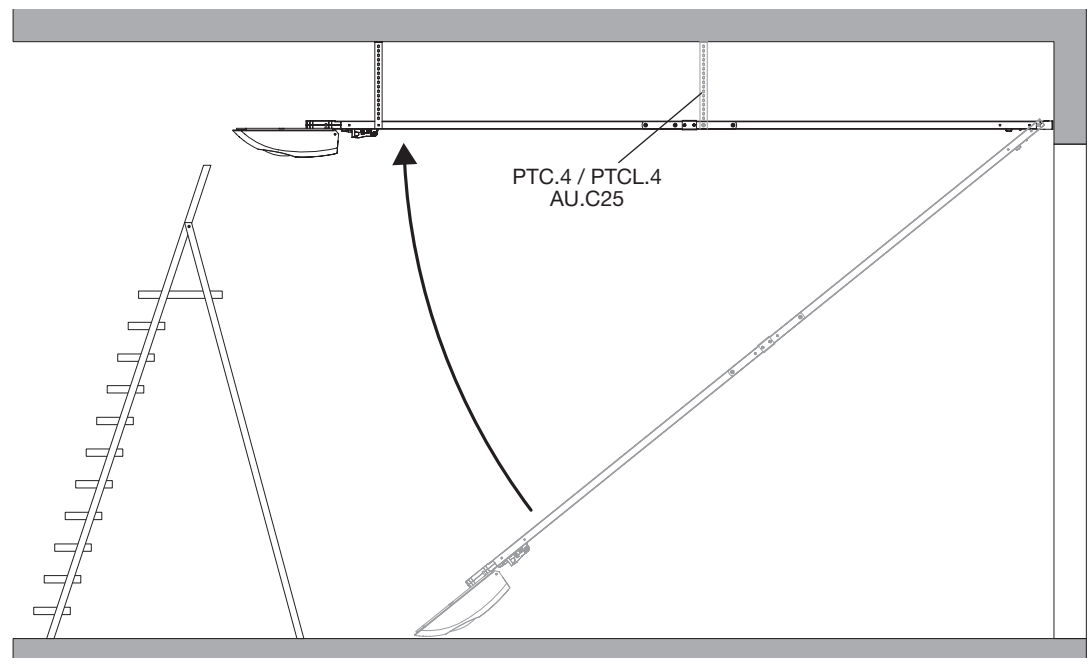

Fig. 12
- By using a ladder, hoist the gear motor (Fig.12), mark the fitting points of the brackets, drill the holes and fix the gear motor by means of screws and screw anchors suited to the material.